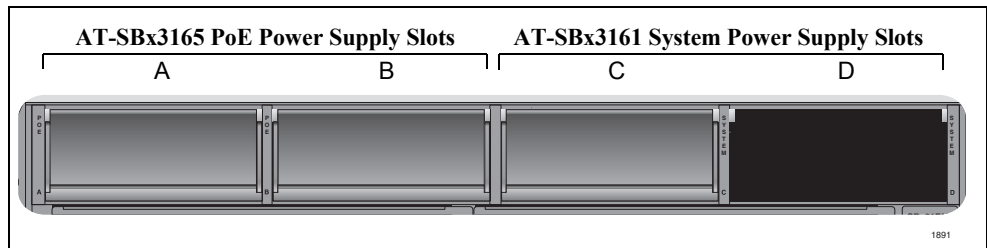

Figure 33. Slots A to D for System and PoE Power Supplies
The SwitchBlade x3112 can host up to four power supplies consisting of two AT-SBx3161 System Power Supplies and two AT-SBx3165 PoE Power Supplies. The AT-SBx3112 Chassis comes with three blank power supply panels in chassis slots A, B, and C as displayed in Figure 33. Slot D is left open for the installation of the first AT-SBx3161 System Power Supply. Keep the blank power supply panels in place on the unused slots to insure proper chassis airflow.
8. If you are installing a second AT-SBx3165 PoE Power Supply, remove the Blank Panel from slot B (see Figure 33 on page 61) and store it in a secure place.